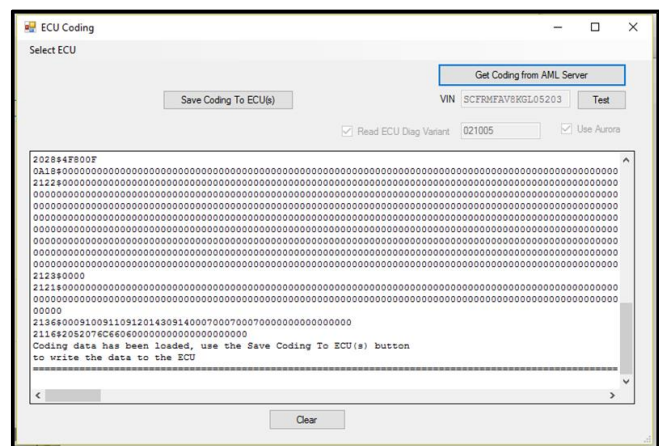

Figure 5
- 10. Coding will be in the scroll window (refer to Figure 5).